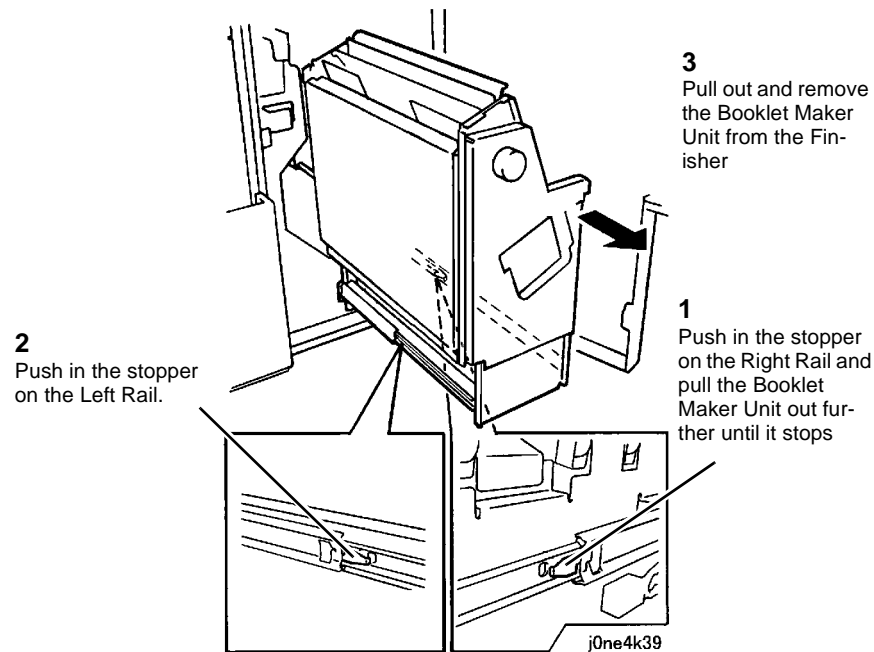

Figure 1 Removing the Booklet Maker Unit
4. Remove the Booklet Maker Unit (Figure 1).